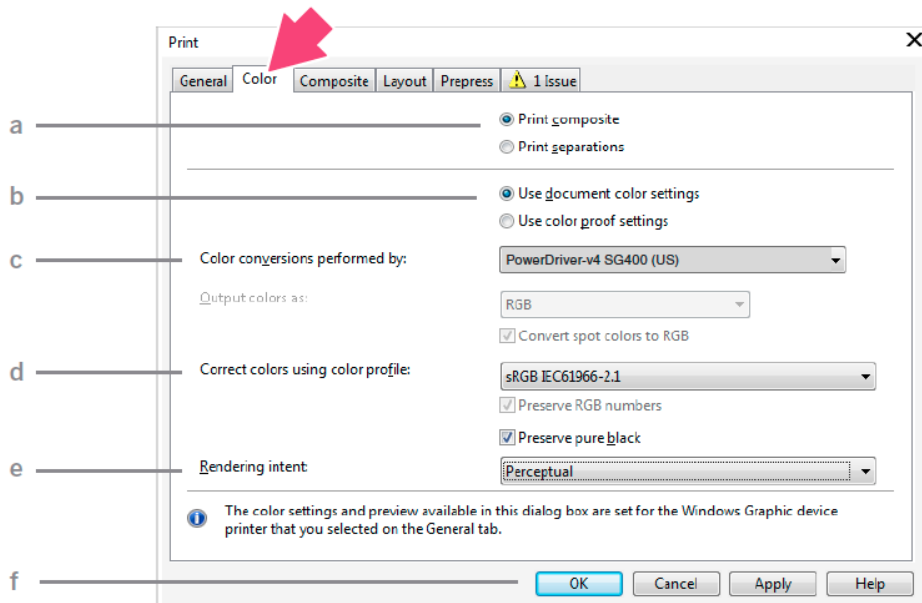

FIGURE 8
8. In the Print window, click the **Color** tab and match your settings to those shown below. See Figure 8.